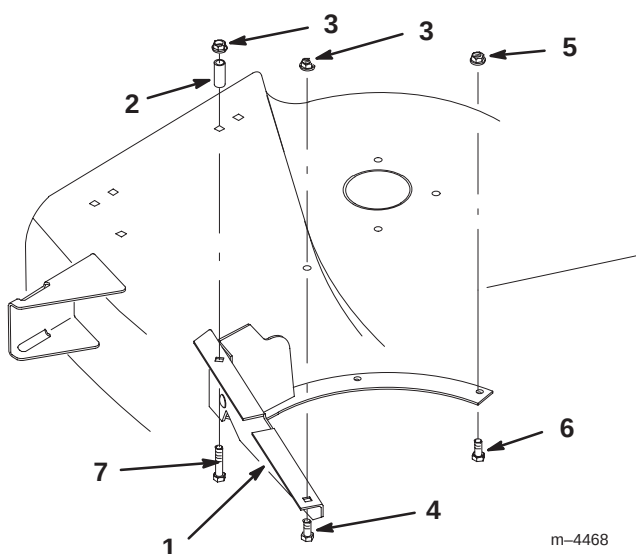

Figure 29
2. Remove the rear grass baffle and grass ring from the inside of the discharge chute area (Fig. 29). Retain all parts for future installation.